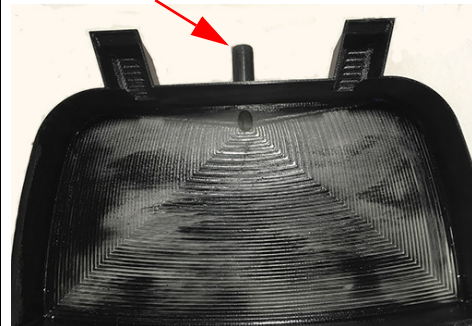

Figure 22
3. Figure 22 shows the drain tube on the drain pan.